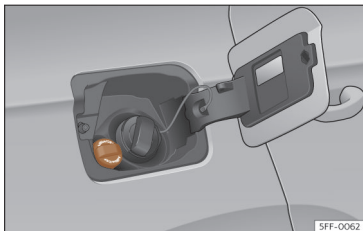

Fig. 202 AdBlue tank cap®.
- Open the tank cover >>> Fig. 202.
- Turn the SCR tank cap anti-clockwise >>> Fig. 202.